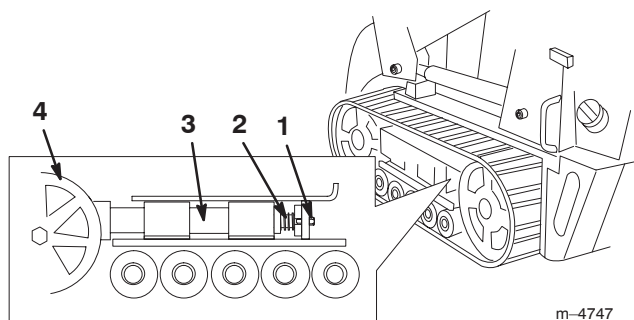

Figure 34
- Remove the locking bolt and nut (Fig. 34).
- Align the closest notch in the tension screw to the locking bolt hole and secure the screw with the locking bolt and nut (Fig. 34).
3. Remove the locking bolt and nut (Fig. 34).
4. Using a 1/2 inch drive socket, release the drive tension by turning the tensioning screw clockwise (Fig. 34 and 35).
4. Using a 1/2 inch drive socket, release the drive tension by turning the tensioning screw clockwise (Fig. 34 and 36).